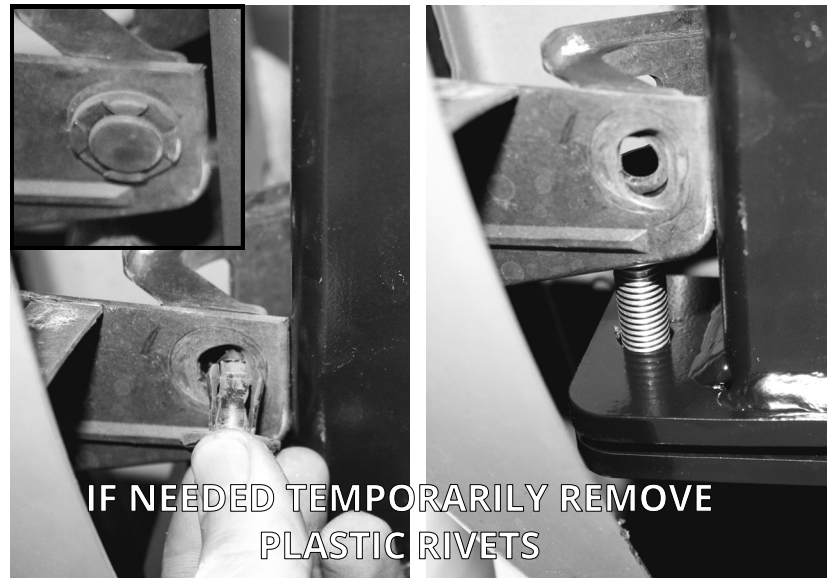

FIGURE B3: VIEW UNDER THE REAR OF THE VEHICLE
8. Two plastic tabs holding the fascia may need to be temporarily relocated to make room to tighten the 1/2" carriage bolts. Use a pick tool to remove the plastic rivets as shown in Figure B3.